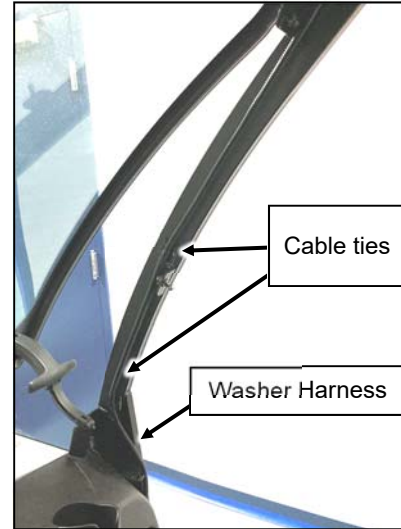

Fig. 4.2
- 4.2 Attach the Washer Harness to the inside face of the driver's side cab front leg with self-adhesive pads and 4" cable ties. See Figure 4.2.